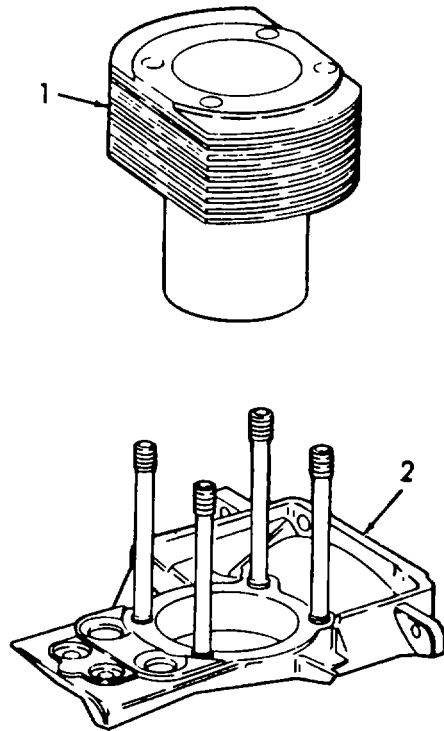

Figure 5-24. Cylinder Removal.
- a. Removal. (Refer to figure 5-24).